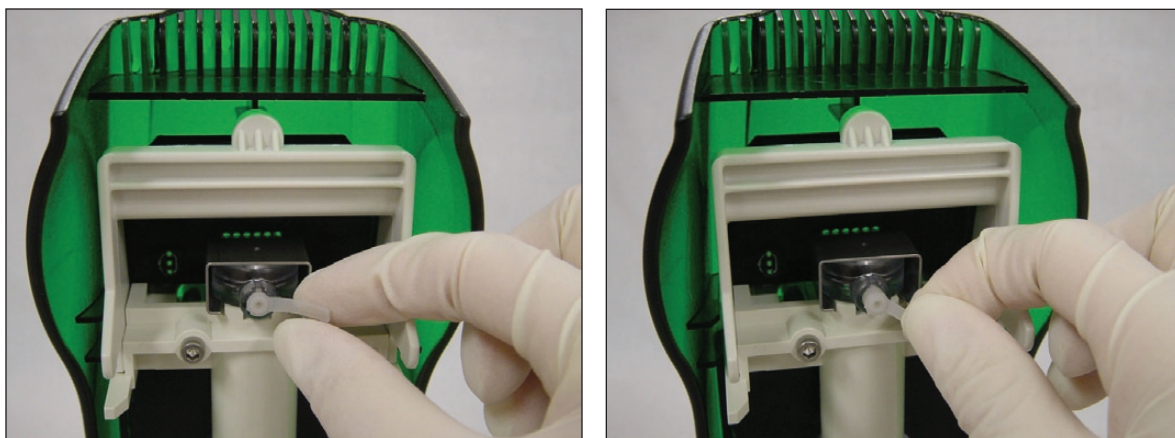

Fig. 3.4. Pulling the priming seal tab.
1. Wearing gloves to keep the seal clean, open the priming station, pull the priming seal tab forward to remove it (Figure 3.4). Hold the tab as close as possible to the seal.